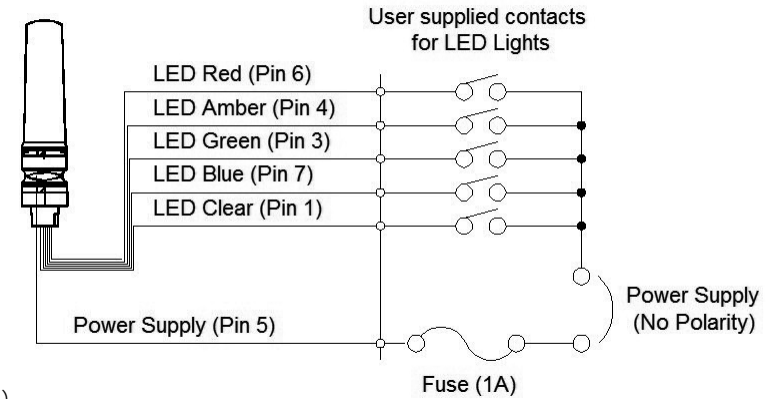

Fig. 1 : Underside (View 'A')
1. The M12 connector and the alarm volume adjustment are located on the underside of the body and are accessible by removing the mount (see Fig. 1).